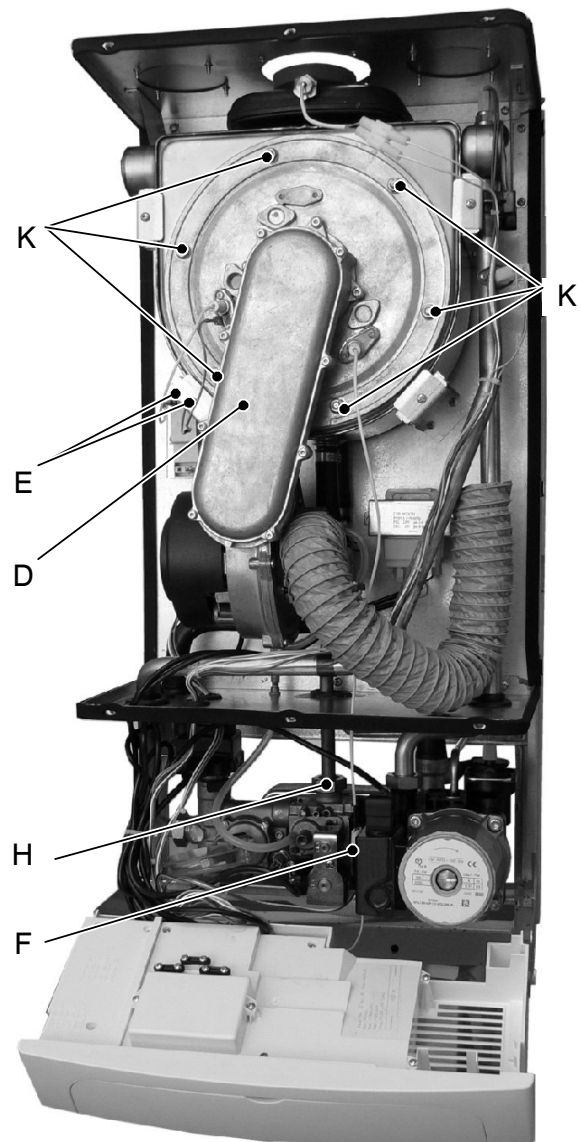

Fig. 8.5
To remove the burner–fan group D (Fig. 8.5):
- 3 Disconnect the connectors of the ignition electrodes E and detection electrode F (Fig. 8.5).
- 5 Unscrew the gas connector H (Fig. 8.5).
- 8 Remove the nuts K (Fig. 8.5) and the burner–fan group D.